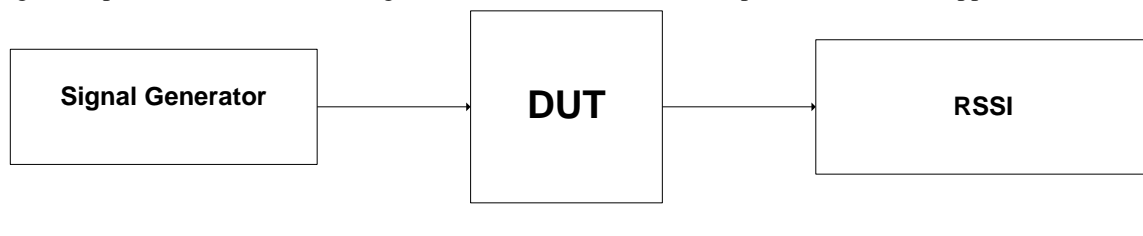

Figure 24 Test Setup
- 1) Test Setup as shown in figure 24.